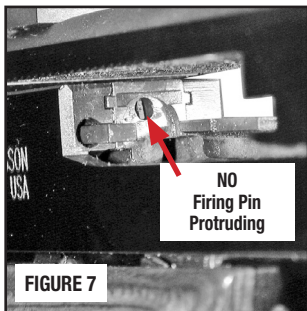

FIGURE 7
- Check the barrel chamber and bore visually for any obstructions (FIGURE 6). Observe the breech face to ensure that the firing pin is not protruding from the breech face (FIGURES 7 and 8).